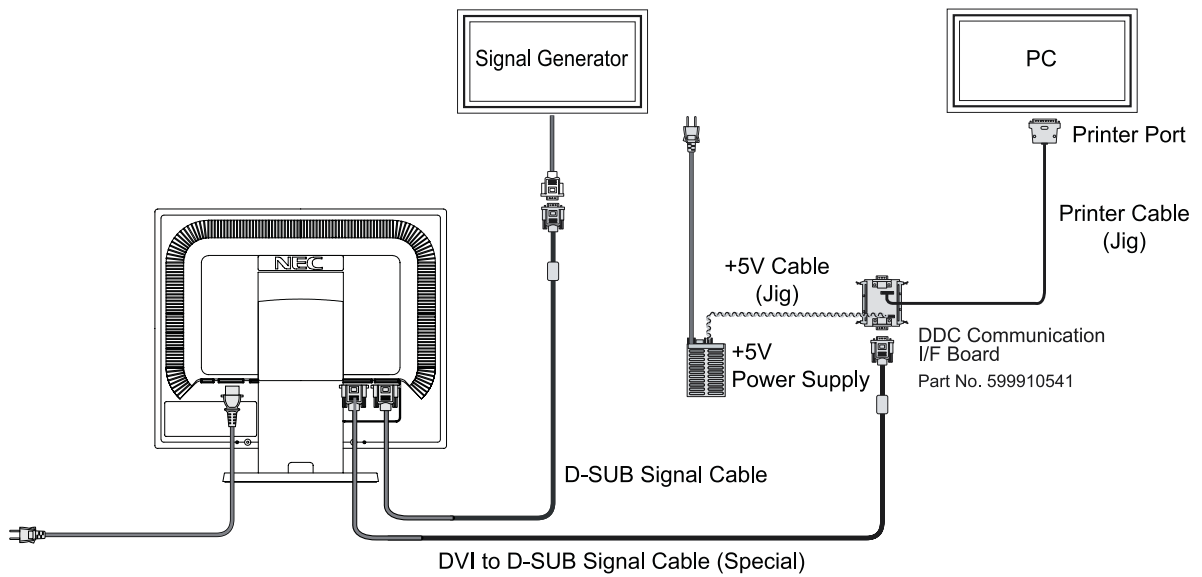

Fig 5.1.2 DVI-D connector connection
- 1) Connect the EDID data writing unit with jigs, etc. (Refer to a Fig.5.1.2 DVI-D connector connection figure)